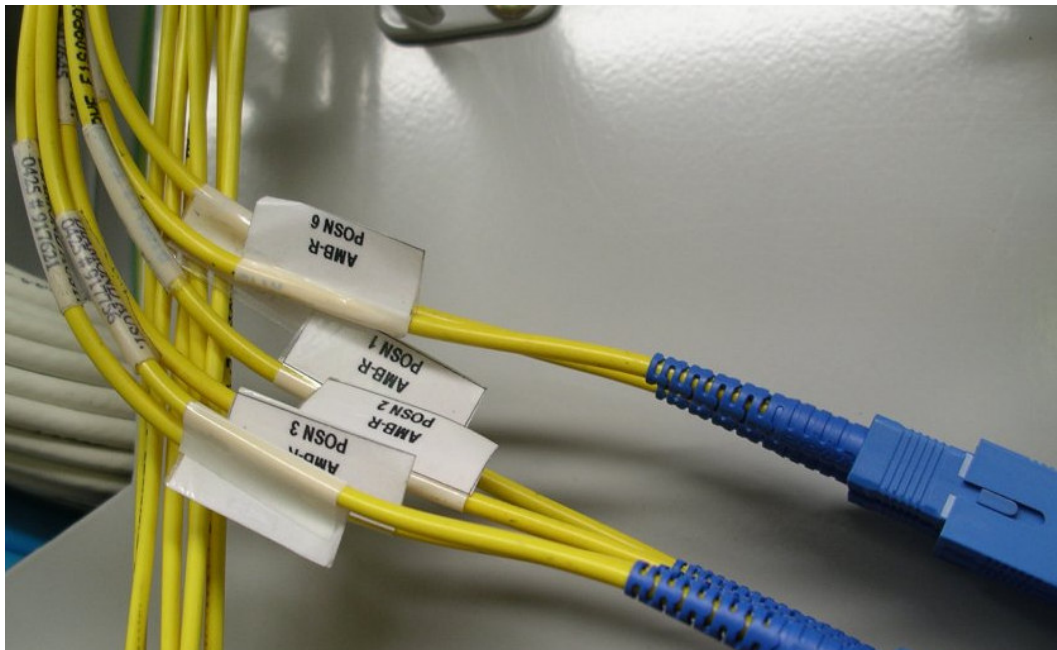

Figure 13 – Example of Brady Wrap-around Self Laminating Cable Lables.
- Cabling identification from and to frames (MDF, DDF, OFDF & any other rack external cabling). Identification labelling at all interconnections shall be made, including such things as cabling into sub-racks, splice trays, etc. Labelling on cables located at the MDF block are not required. The label shall be a wrap-around self-laminating label for both copper and optical cords. E.g. for 8-pair twisted pair use Brady ELAT-19. Refer to Figure 13 below.